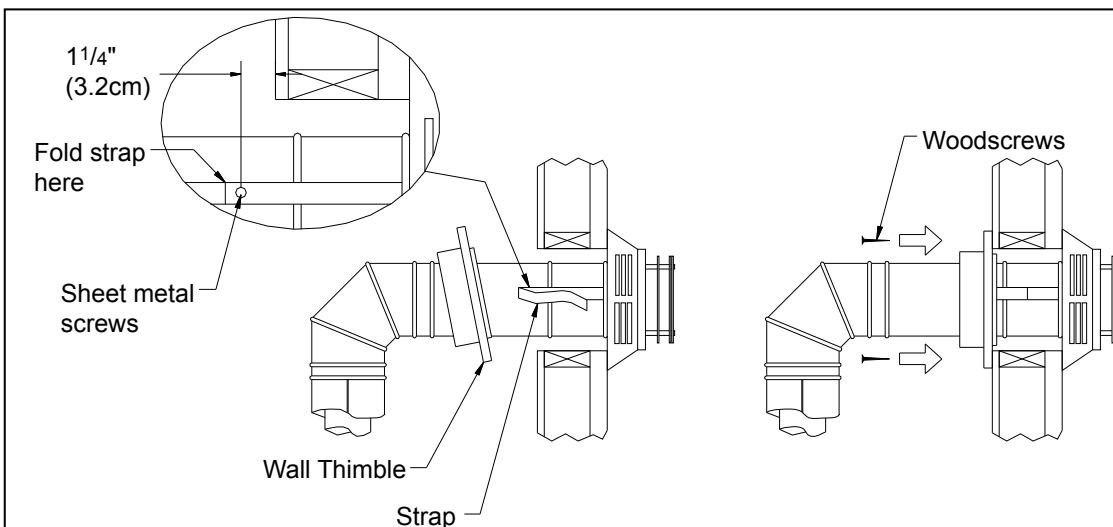

Figure 14: Installing Decorative Wall Thimble.
STEP 6. Slide the appliance and vent assembly towards the wall, carefully inserting the vent pipe into the cap assembly. It is important that the vent pipe extend into the vent cap a sufficient distance with a minimum of 1¼" (3.2 cm) overlap. Secure the connection between the vent cap pipe and the vent cap by attaching the two sheet metal straps extending from the vent cap assembly into the outer wall of the vent pipe. Use the two sheet metal screws provided to connect the straps to the vent pipe. Bend any remaining portion of the sheet metal straps back towards the vent cap, so the decorative wall thimble will conceal it (see left image in Figure 14).
STEP 7. Slide the decorative wall thimble up to the wall surface and attach with the screws provided. Apply decorative brass or chrome trim if desired (see right image in Figure 14).